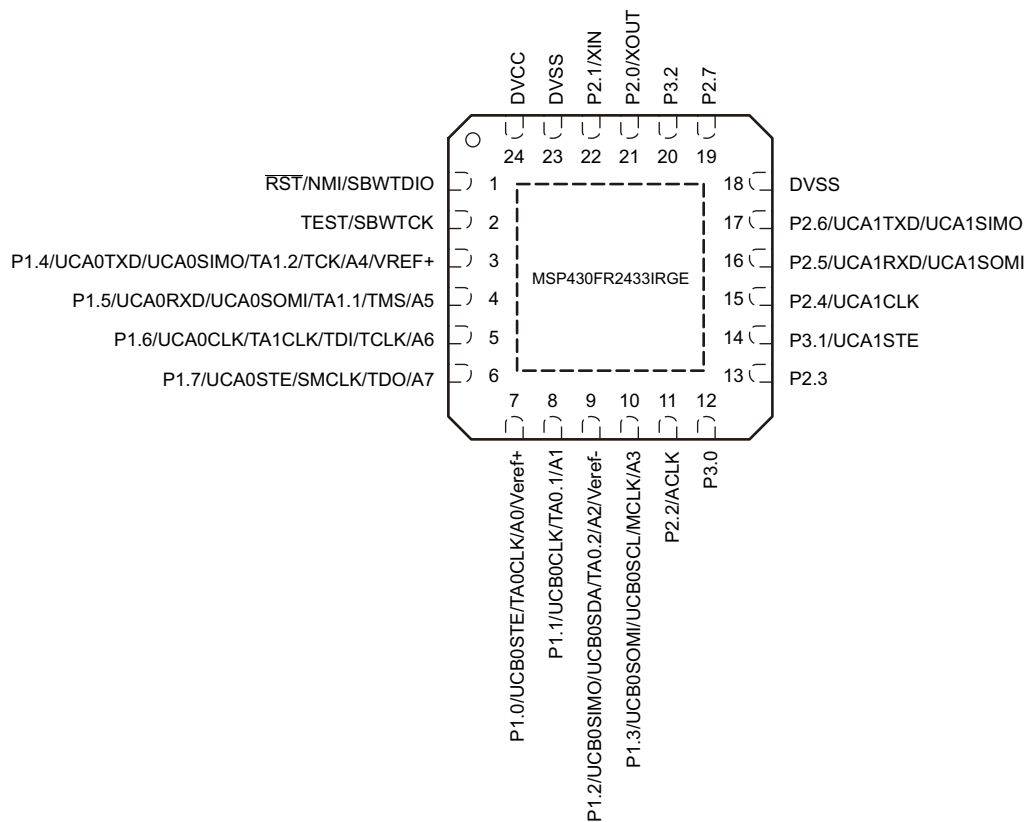
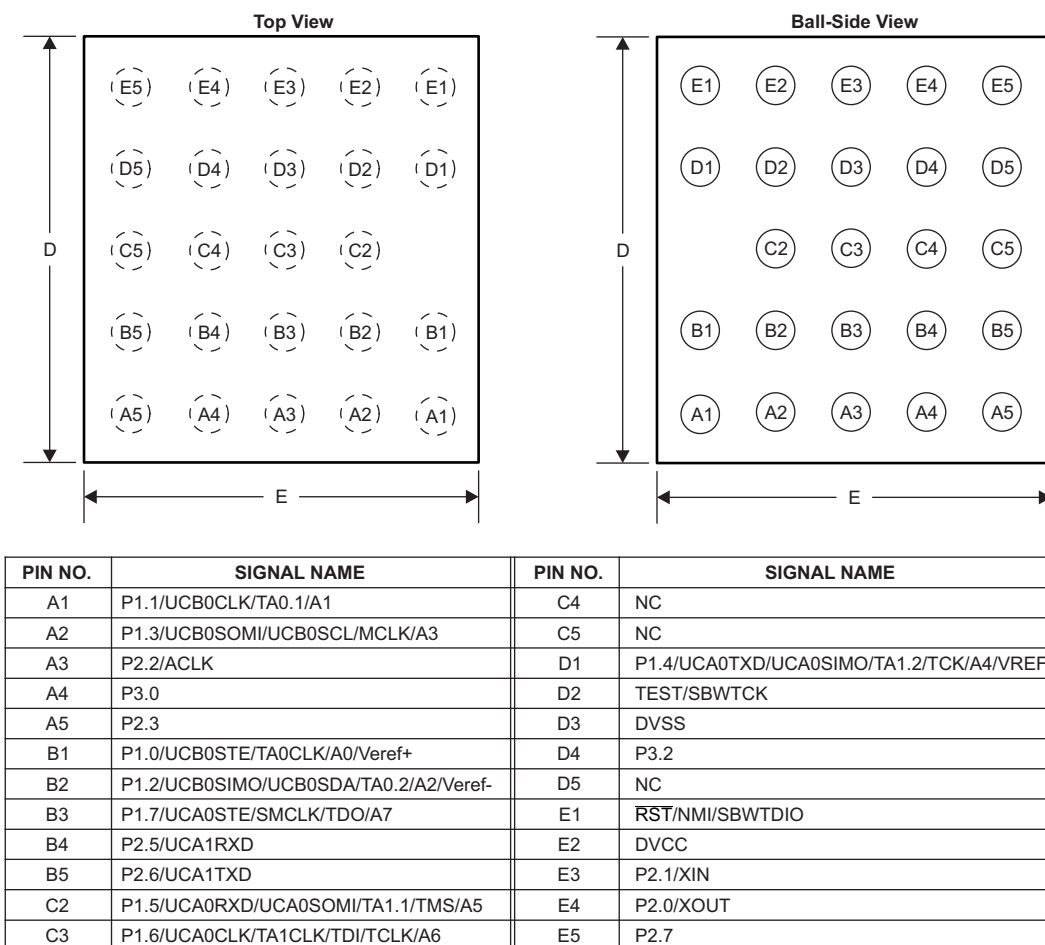

Figure 4-1. 24-Pin RGE Package (Top View)
Figure 4-2. 24-Pin YQW Package (Top and Bottom Views)
- Removed SYNC signal (not supported) from Figure 4-1, 32-Pin RHB Package (Top View) 8 - Combined two YQW pinout figures into one, and removed SYNC signal (not supported) in Figure 4-2, 24-Pin YQW Package (Top and Bottom Views) 9 - Added the $t_{TA, cap}$ parameter in Table 5-13, Timer_A 29 - Removed SYNC signal (not supported) from figure and table in Section 6.11.2, Port P2 (P2.0 to P2.2) Input/Output With Schmitt Trigger 56
Figure 4-1 shows the pinout of the 24-pin RGE package.
Figure 4-2 shows the pinout of the 24-pin YQW package.